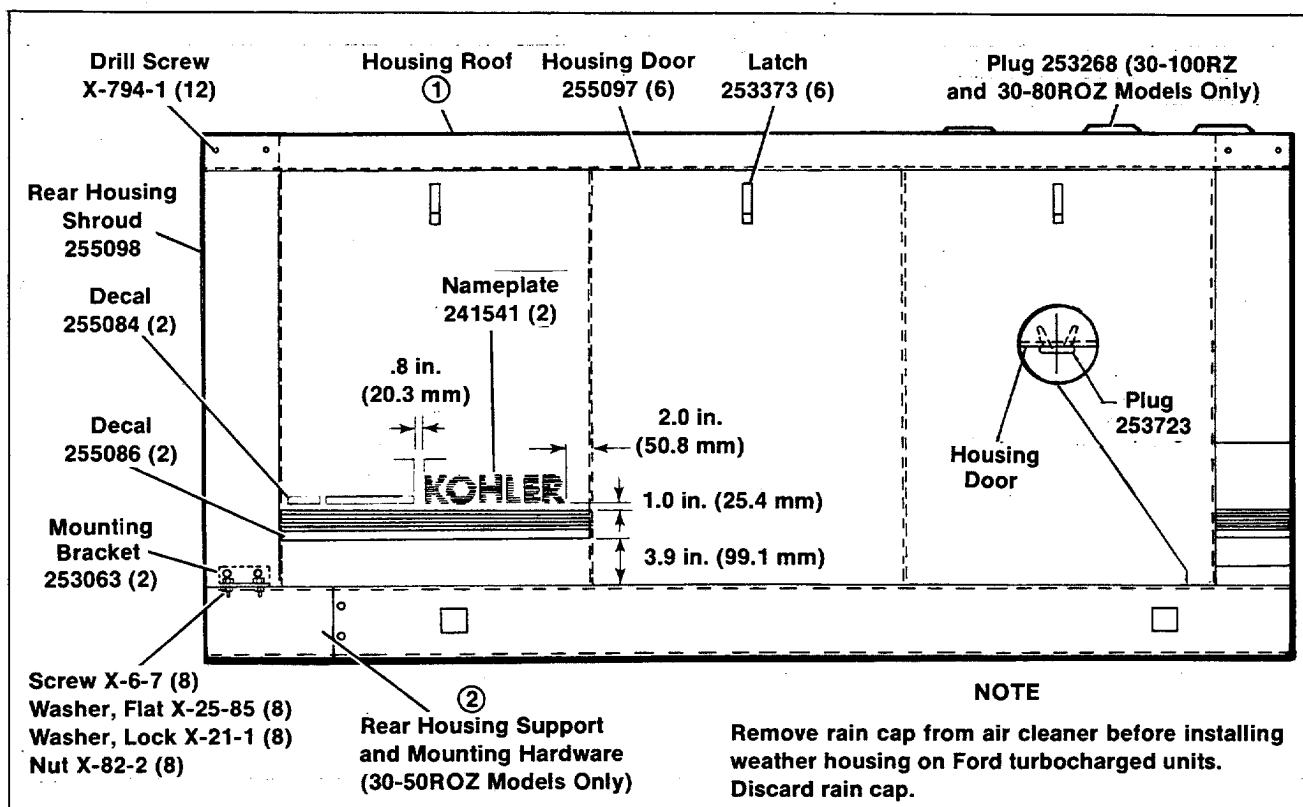

Figure 1. Housing Assembly Drawing—Typical (30-150 kW)
2. Refer to Figure 1 or 2 for assembly drawing. All holes are predrilled in skid. Make certain housing is square before final tightening.